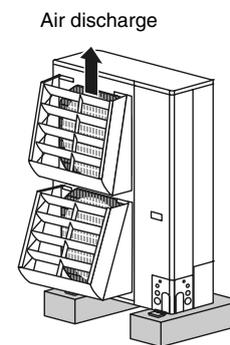

Fig. 2-9
- the air discharge outlet is facing a sidewalk and discharged hot air annoys passers-by. (Fig. 2-9)